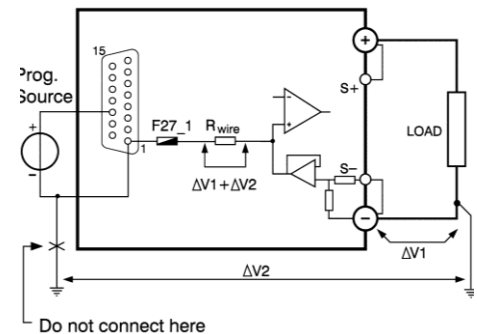

fig 6 – 1
- Please check why current is flowing through pin 1 (see also next paragraph and fig. 6 - 1).
- Fig. 6 - 1 shows a typical earthing problem. In case the load has a connection to earth and the programming source as well, problems could occur. Improper choice of the earthing point of the load can give a voltage drop of $\Delta V1$.